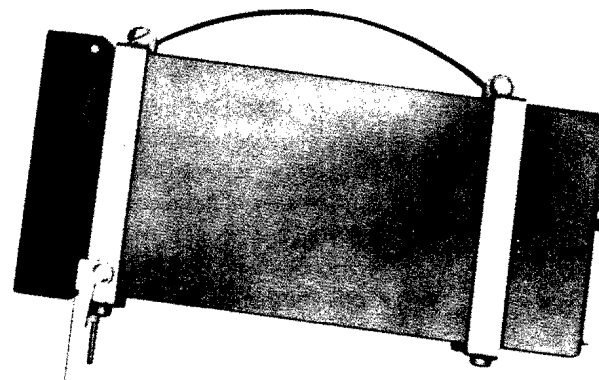

Figure 2-2. Model 2750 with Carrying Handle
2.3.3 For portable use, a carrying handle is available (refer to Figure 2-2). The carrying handle attaches to the recorder case, which also is equipped with fold-out legs to permit easier viewing.